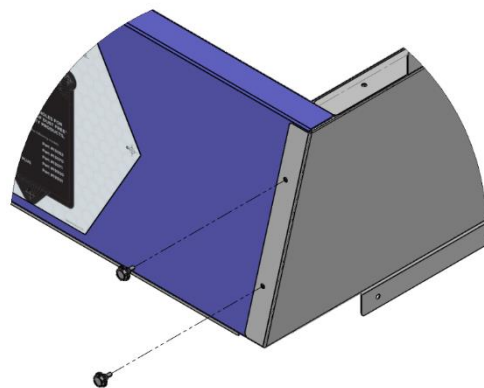

Figure 6: Secure rear panel to side panel with supplied No. 10 x 3/8" screws.
5. Secure the rear panel to the side panel using the supplied **No. 10 x 3/8"** screws in the aligned pre-drilled holes as shown in **Figure 6**.